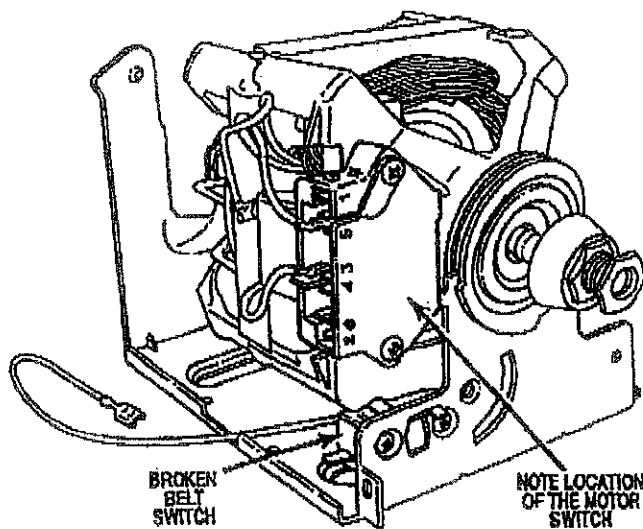

FIGURE 2
- Position motor as shown in Figure 2. Note the location of the motor switch. Secure motor to bracket with the original motor clamps.